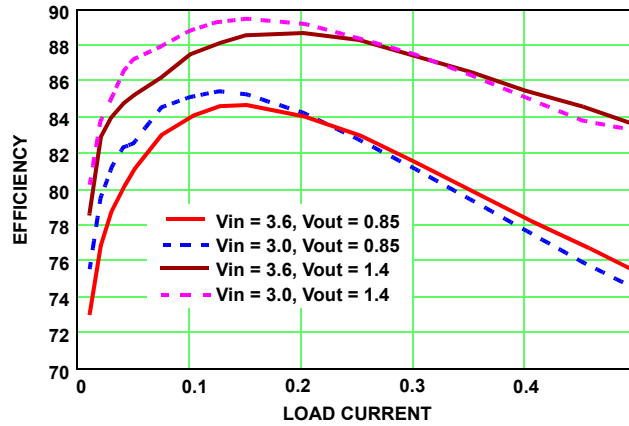

FIGURE 3. SWITCHING FREQUENCY REGULATION
Upon application of input power to the ISL6271A, the power good signal (PGOOD) will switch from low to high after four conditions are met - (1) VCC exceeds the power on reset “rising threshold”, (2) the EN pin is high and (3) the LDO input voltage (LVCC) is greater than 1.6V, (4) All three outputs are in regulation. Figure 3 illustrates this start-up sequence. The outputs are powered on under a soft-start regime with the core output voltage defaulting to 1.3V (unless under VID control) and the LDOs at their fixed output levels. Once the outputs are in regulation, the ISL6271A will respond to a voltage change command via the I2C bus.